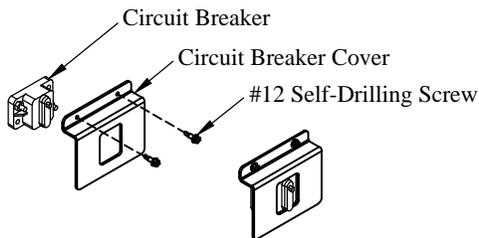

Figure 20: Circuit breaker cover.
22. **Install** the plastic circuit breaker cover over the circuit breaker using the supplied #12 self-drilling screws (Figure 20).